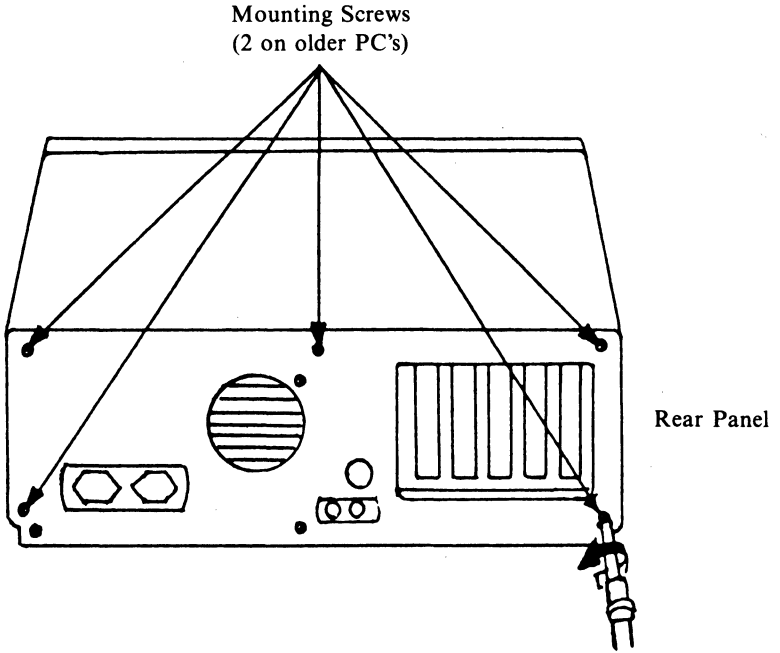

Figure 3.1 Remove Rear-panel Mounting Screws
- 2) Take off the system unit top cover by removing the mounting screws from the back of the system unit. (Refer to Figure 3.1)